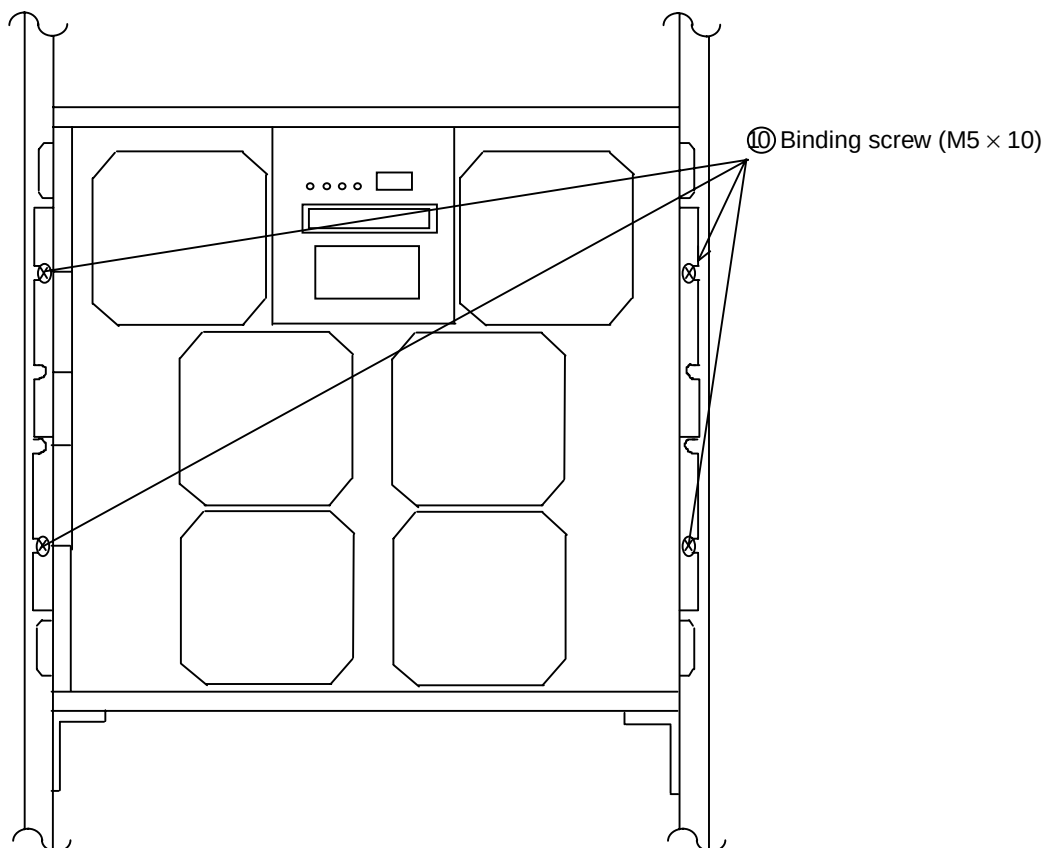

Figure 3.4.7 Securing the Front Side of the Subsystem
3.4.6 Securing the front side of the subsystem (See Figure 3.4.7.)